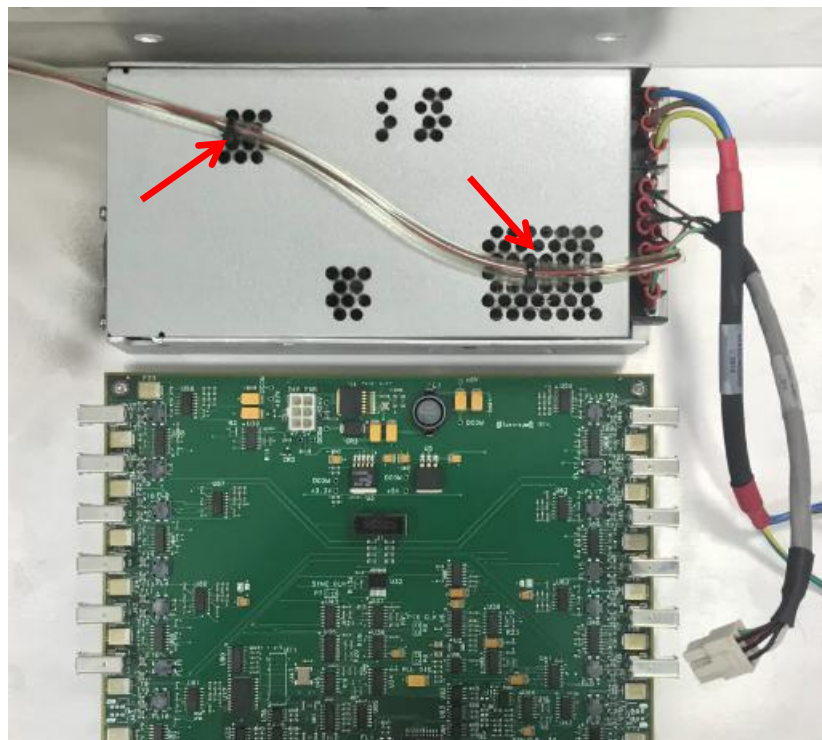

Figure 12 Cable Tie removal
14. Remove Cable Ties at Trigger Board Power Supply Convection Casing as below Figure 12